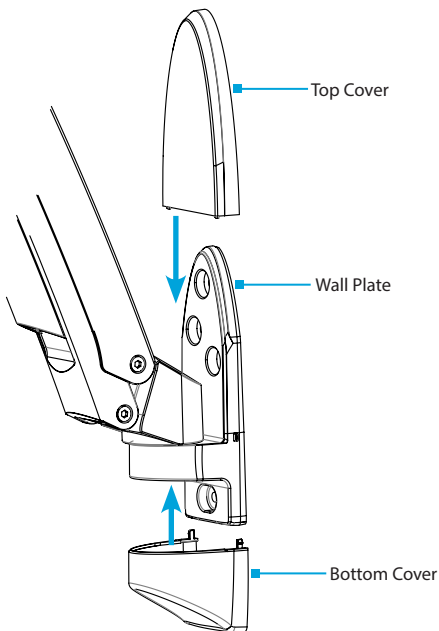

Figure 11
2. Align the **Assembly Holes**, located on the bottom of the **Column**, with the **Assembly Holes**, located between the **Holders** on the **Keyboard Tray**. (Figure 11)
3. Slide the **Top Cover** and the **Bottom Cover** onto the **Wall Plate**, until each one clicks into place. (Figure 11)